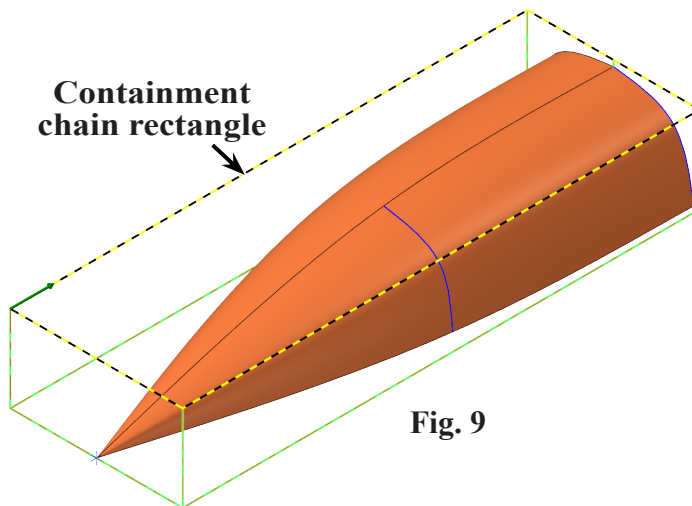

Fig. 9
Step 7. Click **a line on top of bounding box** to chain the top rectangle, Fig. 9. Click the OK button in the Chaining dialog box.